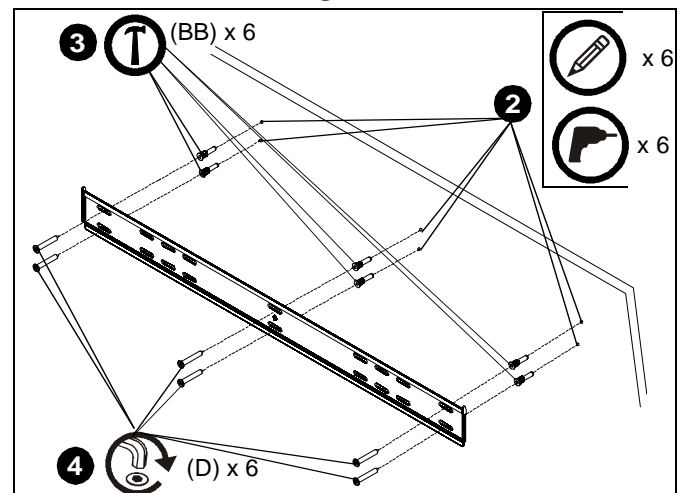

Figure 3
4. Using wall plate as template, mark and then drill four or six (for triple-stud mounting) 3/16" diameter pilot holes through mounting surface making sure the holes are centered in the middle of each stud. Holes must be drilled at least 2-1/4" deep. (See Figure 3)
5. Install four or six connector screws (D) through wall plate and into pilot holes using M4 Allen Head bit (CC). (See Figure 3)
2. Using wall plate as a template, mark and then drill six 5/16" diameter pilot holes through mounting surface. Use level to make sure wall plate is perfectly horizontal. Holes must be drilled at least 2-1/4" deep. (See Figure 3)
3. Install six anchors (BB) into pilot holes drilled in Step 2. Use a hammer to lightly tap anchors into holes. (See Figure 3)
4. Install six connector screws (D) through wall plate holes and into anchors. (See Figure 3)